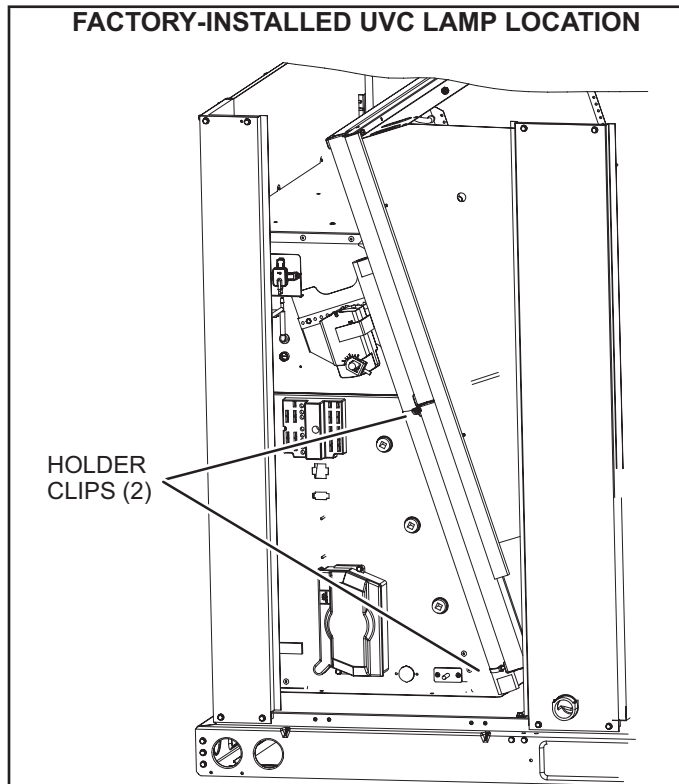

FIGURE 38
- 1 - Cut wire ties and remove the UVC lamp attached to the filter rack. See FIGURE 38.